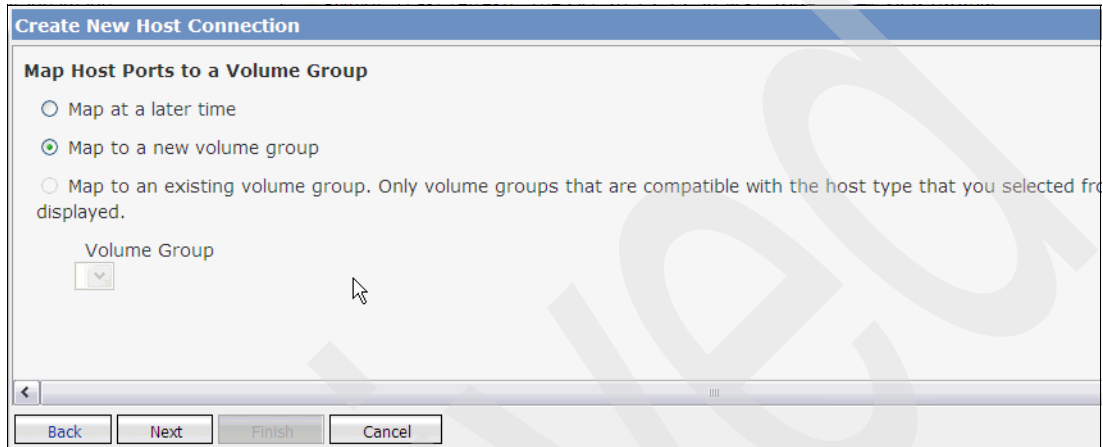

Figure 13-51 Map Host Ports to a Volume Group window
- The Map Host Ports to a Volume Group window appears, as shown in Figure 13-51 on page 334. In this window, you can choose the following options: